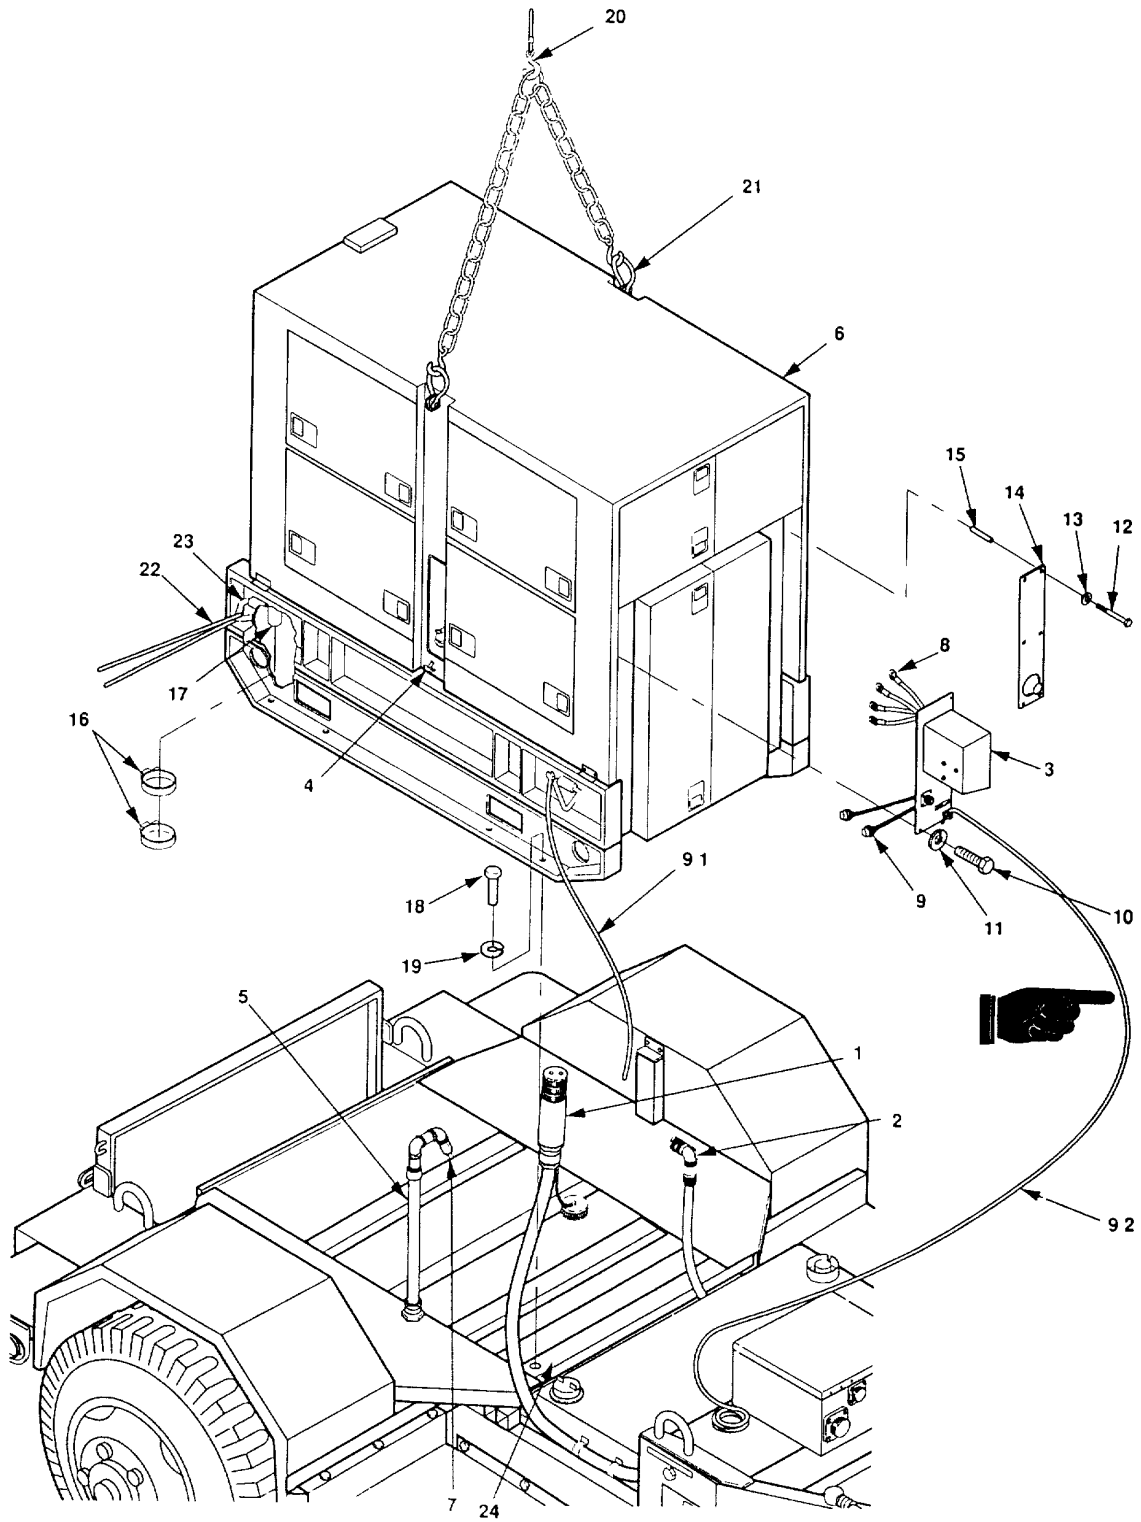
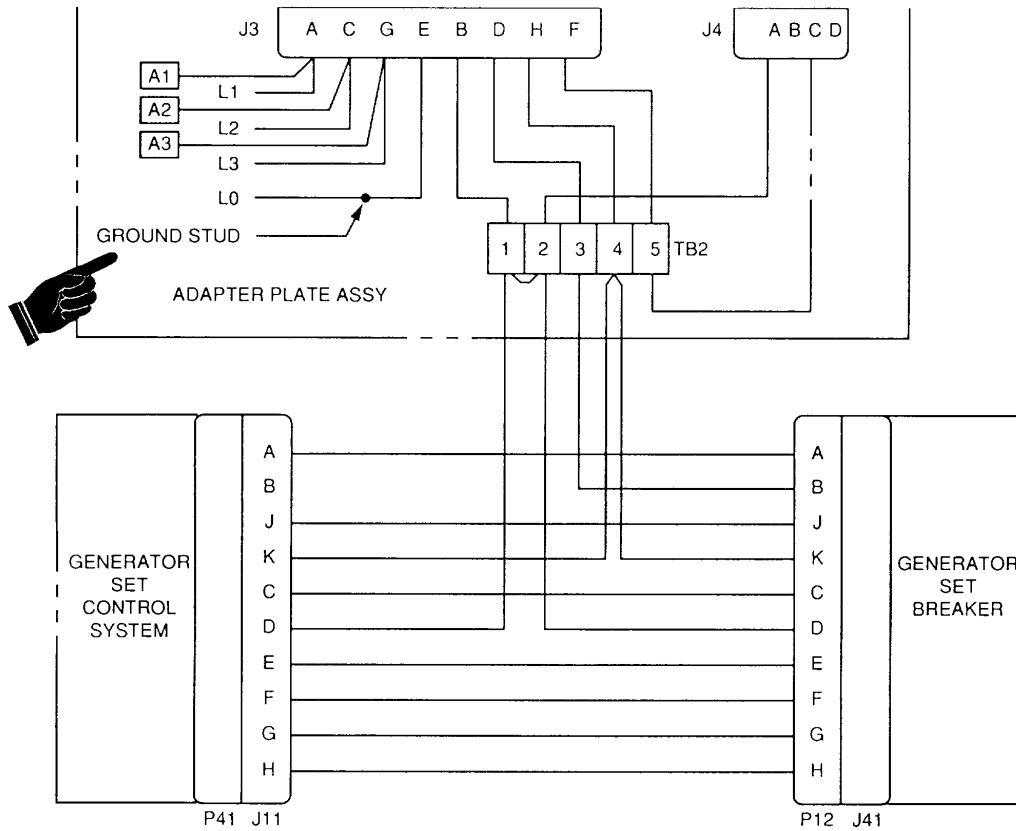

Figure 5-1. Generator Set Replacement.
Figure 5-3. Adapter Plate Assembly Wiring Diagram.
5-2. Generator Set Replacement. (See figure 5-1.)a. *Removal.*
- (1) Unplug P3 power/control cable (1, figure 5-1) and P4, P7 low fuel cable (2) from adapter plate assembly (3).
- (2) Turn fuel selector valve (4) to OFF. Disconnect fuel line (5) from generator set (6) by unscrewing adapter (7) from generator set.
- (3) Open generator set side panels.
- (4) Disconnect four J3 harness wires (8) from generator set load terminals inside curbside front side panel.
- (5) Disconnect P12, J11 wiring harness (9) from connectors P41 and J41 on generator set (6) and from terminal board TB2 on adapter plate assembly (3). Pull wiring harness out through top. Reconnect P41 and J41.
- (6) Disconnect generator set ground wire (9 1) from generator skid ground. Disconnect ground wire (9 2) from adapter plate assembly GROUND.
- (7) Remove six screws (10) and six lockwashers (11) and remove adapter plate assembly (3) from generator set (6).
- (8) Remove four screws (12) and four lockwashers (13) and remove sleeve plate assembly (14) and spacers (15) from generator set (6). Retain screws, lockwashers and spacers for installation on replacement generator set. Using hardware stored in generator set storage compartment, install sleeve plate assembly on generator set at location from which adapter plate assembly was removed in step (6).
- (9) Remove two hose clamps (16) from each of four generator set fuel tank vent lines (17) and retain for installation on new generator set (6).
- (10) Close generator set side panels.
- (11) Remove eight screws (18) and eight lockwashers (19) securing generator set (6) to trailer.
- (1) Attach lifting equipment (20) with a minimum lifting capacity of 5000 lb to both lifting eyes (21) on top edge of generator set (6) . Insert a rope (22) through each of four tiedown rings (23) on generator set.
- (2) With one person at each rope to steady and guide generator set (6), lift generator set and carefully lower it onto trailer.
- (3) Insert eight screws (18), with one lockwasher (19) each, through generator set skids into threaded inserts in generator supports (24).
- (4) Open generator set side panels.
- (5) Remove sleeve plate assembly (14) from curbside front of generator set (6) and store hardware in generator set storage compartment. Using four screws (12), four lockwashers (13) and four spacers (15) retained during generator set removal, mount sleeve plate assembly in its storage position on roadside front of generator set, as shown in figure 5-1.
- (6) Install adapter plate assembly (3) on curbside front of generator set (6) with six screws (10) and six lockwashers (11).
- (7) Separate connectors P41 and J41 on generator set (6). Connect P12, J11 wiring harness (9) to generator set by connecting P12 to J41 and J11 to P41, and to terminal board TB2 on adapter plate assembly (3) (Refer to figure 5-3 when reconnecting wires).
- (8) Connect four J3 harness wires (8) to generator set load terminals as follows J3 pin A to L1, J3 pin C to L2, J3 pin G to L3 and J3 pin E to L0.
- (9) Connect generator set ground wire (9 1) to generator skid ground Connect ground wire (9 2) to adapter panel assembly GROUND.
- (10) Connect fuel line (5) to auxiliary fuel connection on generator set (6) Turn fuel selector valve (4) to AUXILIARY
- (11) Plug P3 power/control cable (1) and P4, P7 low fuel cable (2) into connectors J3 and J4 respectively on the adapter plate assembly (3).
- (1) If jumper (17) was removed during disassembly, unscrew one terminal screw (16) on terminal 1 and adjacent screw (16) on terminal 2, position jumper over screw holes and reinstall screws. Position terminal board TB2 (2) and marker strip (15) on welded bracket inside adapter place (6) and fasten with two screws (14). Reconnect wires. (See figure 5-3 for wire routing information.)
- (2) Slide EMI gasket (13) over J4 harness wires (9) and up against J4 connector flange. Feed J4 harness wires through J4 connector opening in adapter plate (6) and mount connector and gasket to adapter plate with four screws (10), four flat washers (11) and four self-locking nuts (12). Reconnect J4 harness wires to terminal board TB2 (2). (See figure 5-3 for wire routing information).
- (3) Slide EMI gasket (7) over J3 harness wires (1) and up against J3 connector flange. Feed J3 harness wires through J3 connector opening in adapter plate (6). Secure surge protectors (5.5) to the adapter plate (6) using three bolts (5.1), three flat washers (5.2), three lockwashers (5.3) and three nuts (5.4). Mount connector and gasket to adapter plate (6) with four screws (3), four flat washers (4) and four self-locking nuts. (5). Make sure tab of connector cover chain (18) is mounted to connector with lower right corner hardware. Reconnect J3 harness wires to generator set load terminals and terminal board TB2 (2) (See figure 5-3 for wire routing information).
- (4) Reconnect P3 power/control cable and P4, P7 fuel cable Reconnect ground cable to adapter plate GROUND.
- (5) Close generator set side panel.